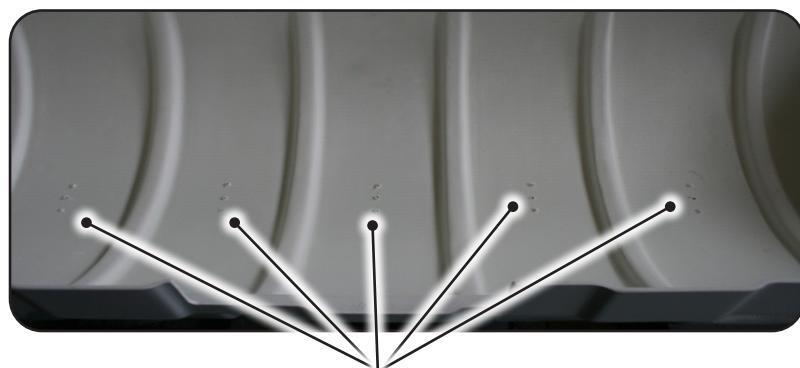

FIGURE 817A
- (a) Drainage holes are made in all containers. Refer to FIGURE 817A. These holes allow any build up of water to escape. A polyethylene sheet is then put inside the container before the liferaft is rolled inside.
- (c) Line the bottom half of the container with a polyethylene sheet. Refer to FIGURE 817A.
(a) Drainage holes are made in all containers. Refer to FIGURE 817A. These holes allow any build up of water to escape. A polyethylene sheet is then put inside the container before the liferaft is rolled inside.
(a) Drainage holes are made in all Flat-Pack containers. Refer to FIGURE 817A. These holes allow any build up of water to escape. A polyethylene sheet is then put inside the Flat-Pack container before the liferaft is rolled inside.
Refer to FIGURE 817A. These holes allow any build up of water to escape. A polyethylene sheet is then put inside the Flat-Pack container before the liferaft is rolled inside.